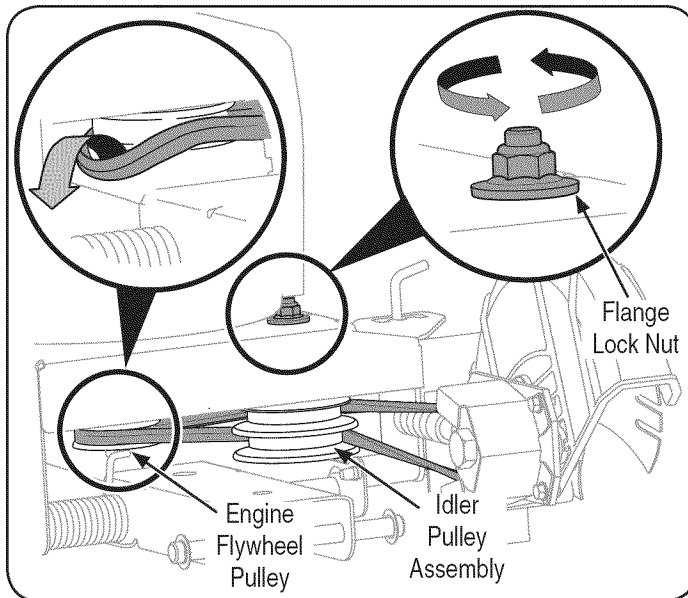

Figure 11
1. Working in front of the edger, loosen the flange lock nut on top of frame, allowing the idler pulley assembly to pivot slightly out from the frame. See Figure 11.
2. With your other hand, carefully reach under the rear of the edger and remove the belt from around the engine flywheel pulley. See Figure 11.